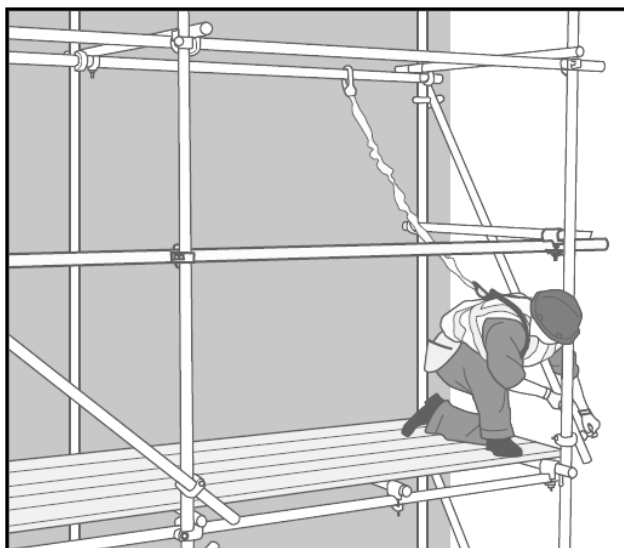

FIGURE 1.2
- 1.2 FIGURE 1.2 below shows scaffolding that is used on a construction site to reach the upper parts of a building.
- 1.2.2 Name the omitted part in FIGURE 1.2 that should be fixed to the platform of the scaffold to prevent tools from falling off. (1)